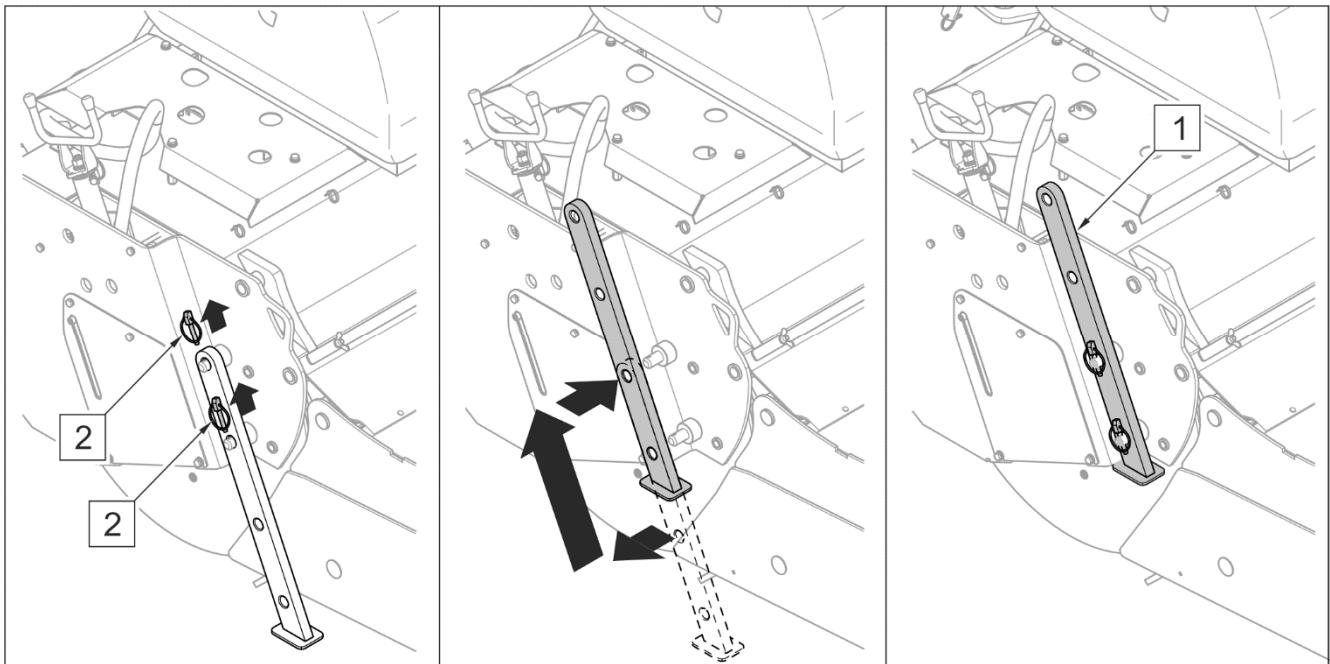

FIGURE 4.5 Raising the parking stands.
- Raise the sweeper using the tractor three point linkage, raise the parking stands and lock them in upper position (FIGURE 4.5)
(1) - parking stands; (2) - securing cotter pin
The sweeper is equipped with two parking stands (FIGURE 4.5). When the machine is hitched and raised, lift the parking stands. To do this, take out securing cotter pins (2), move parking stands (1) to upper position and secure them with cotter pins.